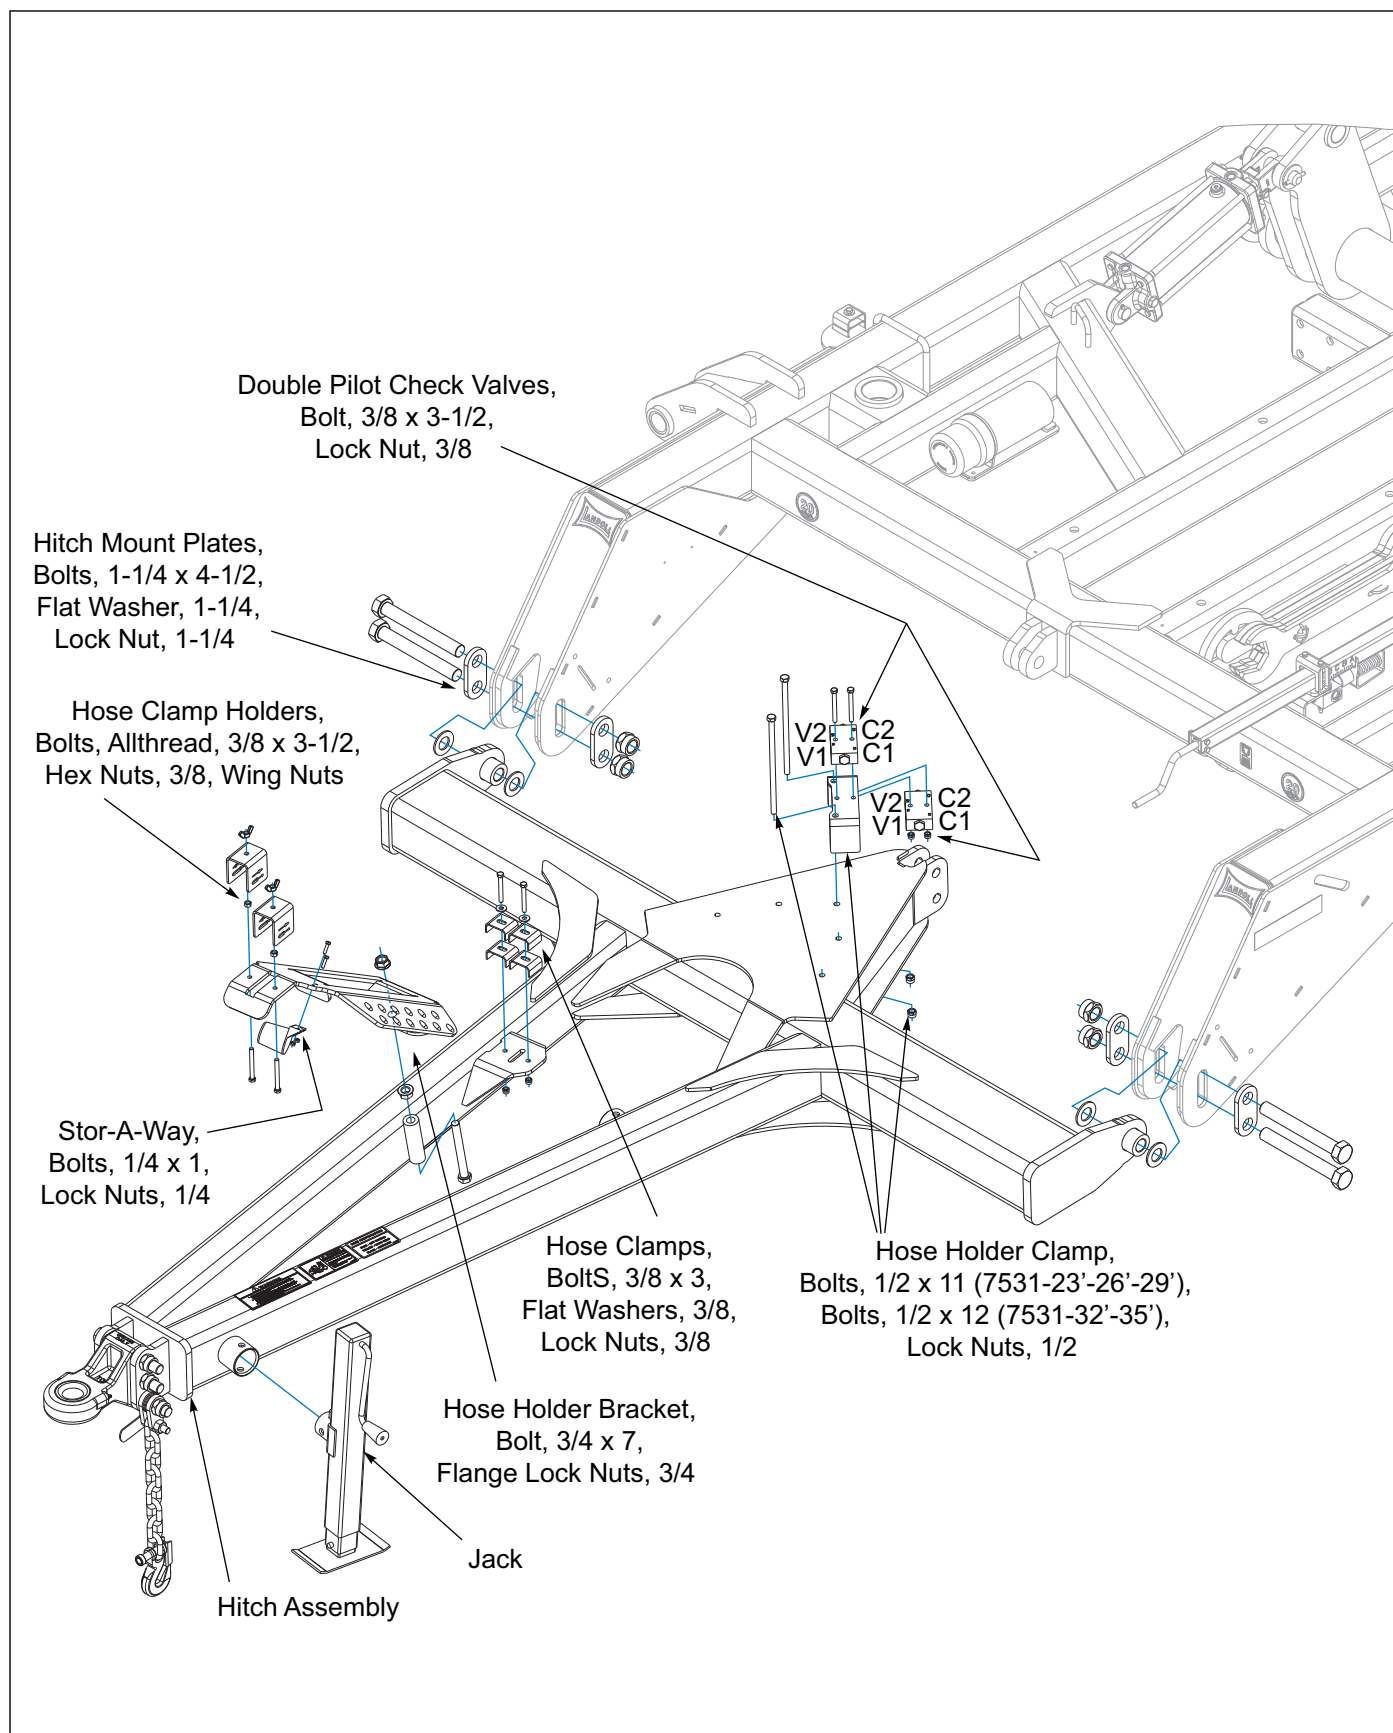

Figure 3-4: Hitch Assembly
1. Attach the hitch assembly, *See Figure 3-4* to the front of the center frame using 1-1/4-7 x 10 bolts, 1-1/4 flat washers, hitch mount plates and 1-1/4 lock nuts.
8. Install the hose holder clamp over the two, holes on rear plate as shown, *See Figure 3-4* using, 1/2 x 11 bolts (7531-23'-29'), 1/2 x 12 bolts (7531-32'-35') and 1/2 lock nuts.
9. Install a double pilot check valve on top and bottom side of hose holder clamp with port orientation as shown, *See Figure 3-4*, with 3/8 x 3-1/2 bolts and 3/8 lock nuts.